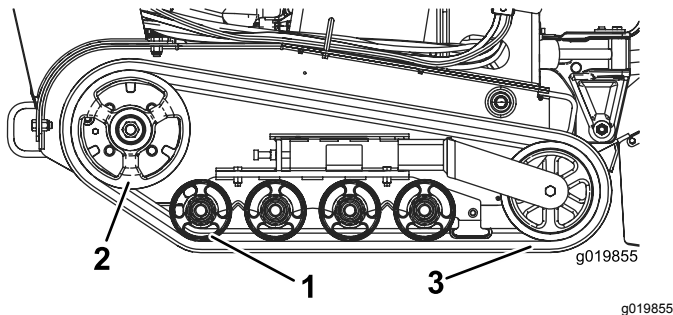

Figure 44
Important: Ensure that you fully clean the road wheels and the drive wheel (Figure 44). The road wheels should rotate freely when clean.
8. Beginning at the drive wheel, coil the new track around the wheel, ensuring that the lugs on the track fit between the spacers on the wheel (Figure 44).
9. Push the track under and between the rear and center road wheels (Figure 44).